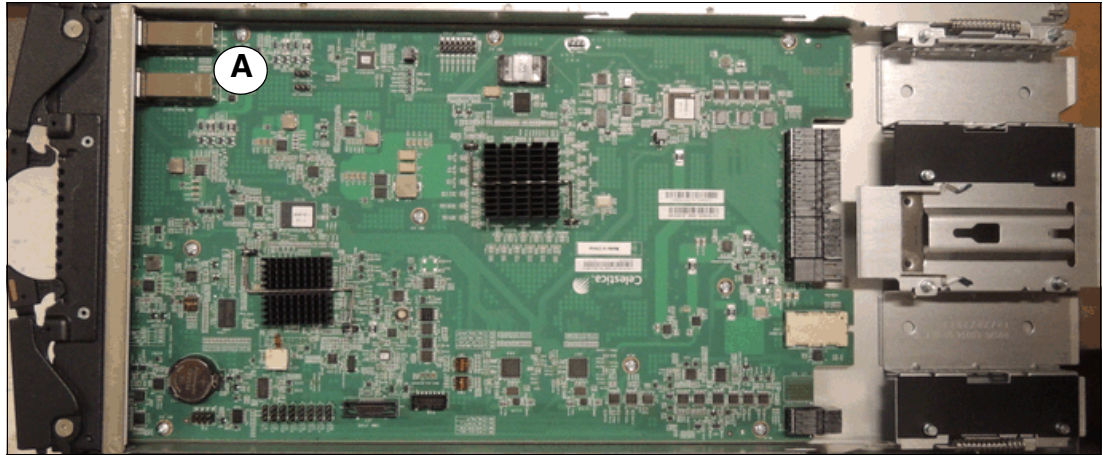
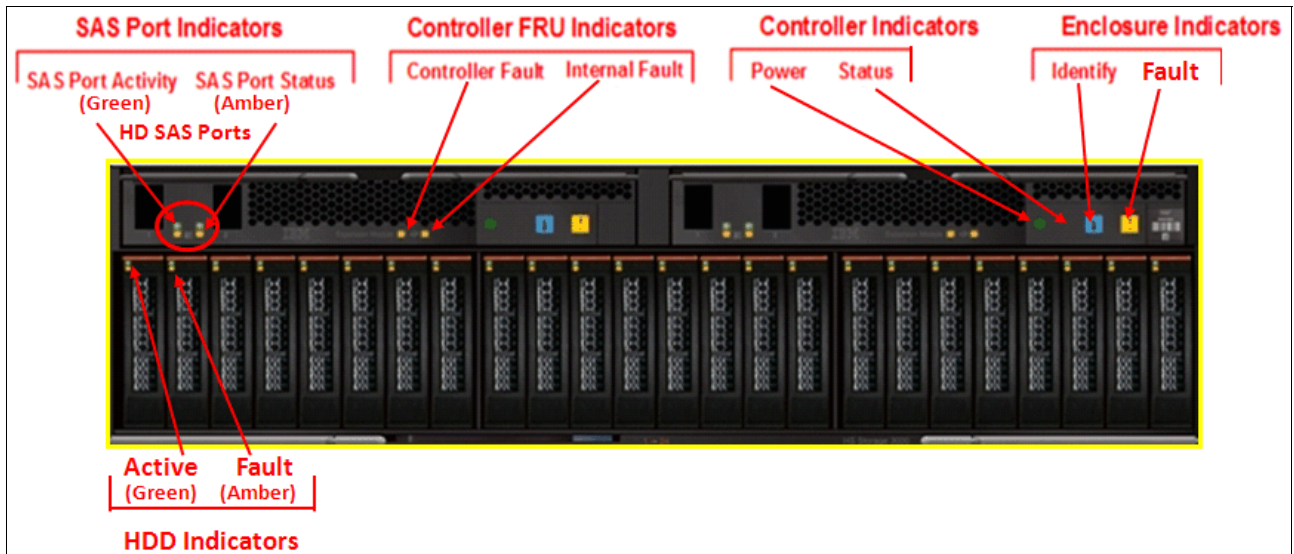

Figure 2-6 Components and board layout of the expansion canister
Figure 2-7 Expansion enclosure with connection ports and indicators
The expansion canister connects the expansion disks to the control canister using the SAS2 6 Gbps chain interface. This module also enables the daisy-chaining of additional expansions to be connected behind it to further expand the capacity of the system's storage. The expansion canister is also a Customer Replaceable Unit (CRU). Figure 2-6 shows a picture of the expansion canister with its cover removed.
As shown in Figure 2-6, the expansion canister does not contain a battery backup unit like the control canister does. It does have an additional SAS2 connection (A) on it to allow for the continuation of the chain to additional expansions. Figure 2-7 shows the SAS connection ports and the status indicators on the front of the expansion enclosures.